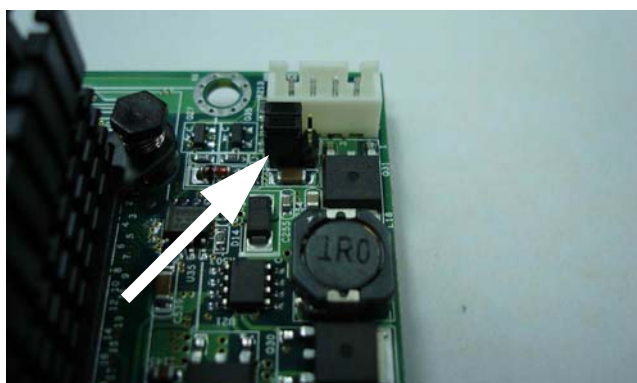

Figure 5-4
Step 3: Please adjust AT & ATX Selector on "JP1" to short 3-5, 4-6 pins, then it can support ATX power scheme. (Figure 5-4)